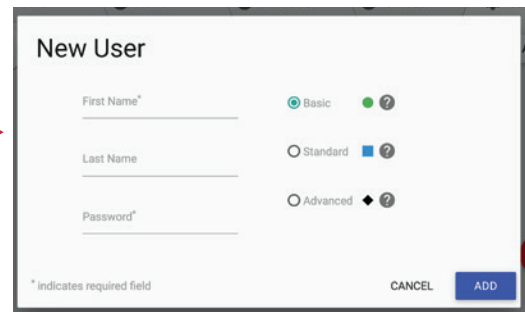

Figure 4.34
2. Once you select Create User, a new user prompt will pop up and ask you for the New User details (Figure 4.34).